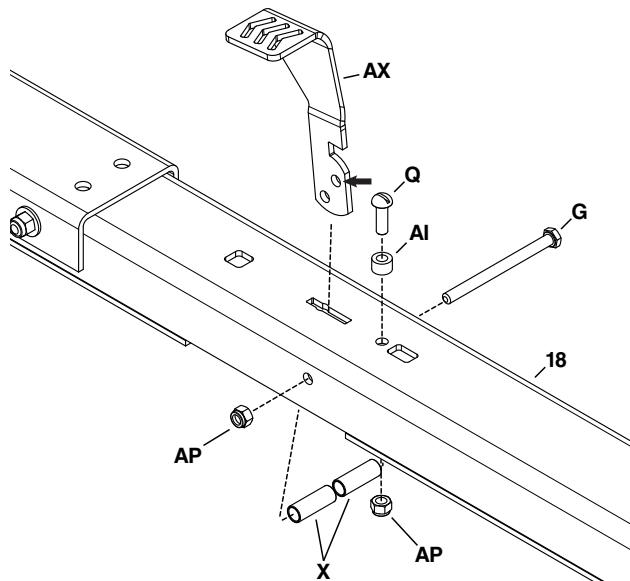

FIGURE 5
- Install the foot pedal latch (AX) into the rear tongue assembly (18). Make sure the notch is facing rearward as shown below.
- Install a 5/16" x 4" bolt (G) from the right side through the rear tongue assembly (18), a 1-13/32" long spacer (X), foot pedal latch (AX) (using the upper rear hole shown below with arrow pointing at it), another 1-13/32" long spacer (X), left side of the rear tongue assembly (18).
- Secure with a 5/16" nylock nut (AP). Tighten hardware but make sure the foot pedal latch (AX) can still move freely.
- Install a 5/16" x 1" slot screw (Q) and 23/64" long spacer (AI) into small hole behind latch on the rear tongue assembly as shown below.
- Secure with a 5/16" nylock nut (AP). Tighten hardware. See figure 5.